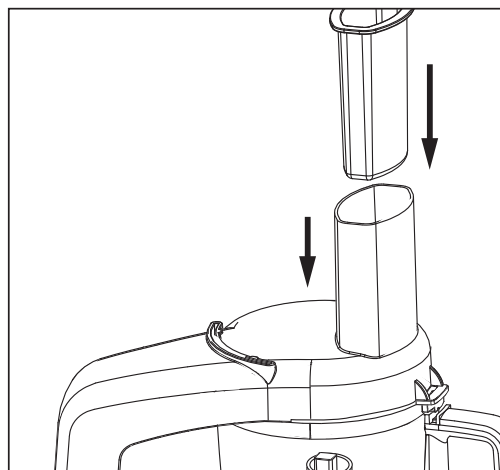

Figure 10
- 7 Turn the knob to the ON position for continuous processing. Push down with a light but steady pressure onto the Food Pusher (Figure 10).